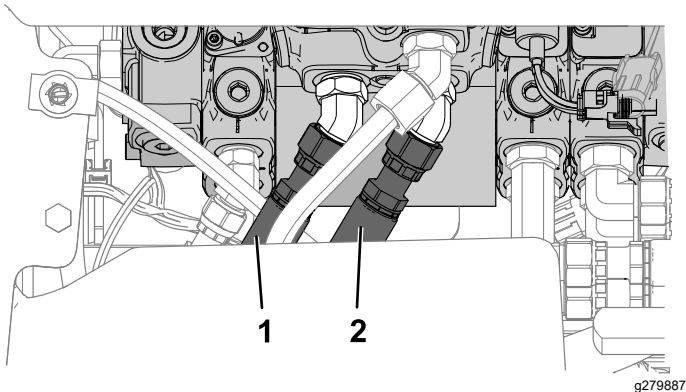

Figure 11
2. Disconnect the hydraulic hoses shown in Figure 11 from the hydraulics lever valve.